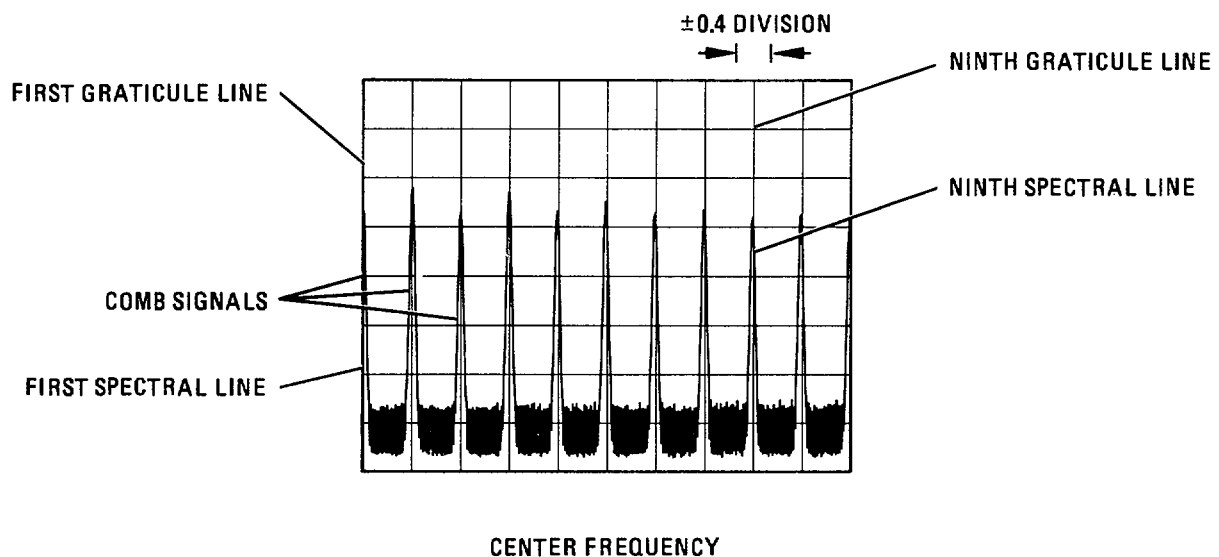

Figure 4-2. Frequency Span Accuracy Measurement for Ninth Spectral Line
- 3. Adjust spectrum analyzer TUNING control to position one spectral line (from comb generator) at first graticule line (left-hand edge of display). Measure error between ninth spectral line and ninth graticule line as shown in Figure 4-2. Error should be no greater than - 0.4 division.